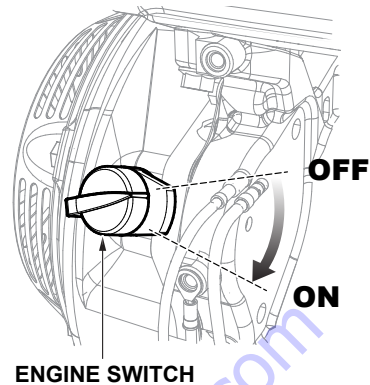

Figure 34. Engine ON/OFF Switch (ON)
2. Place the engine ON/OFF switch in the **ON** position (Figure 34).